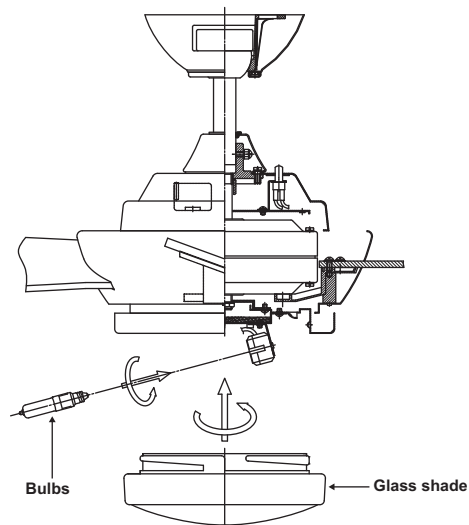

Figure 17
Step 1. Install 2 × 50W halogen bulbs (included). (Fig. 17)
Step 2. Install the glass shade by carefully turning it clockwise until snug. **DO NOT OVERTIGHTEN.** (Fig. 17)